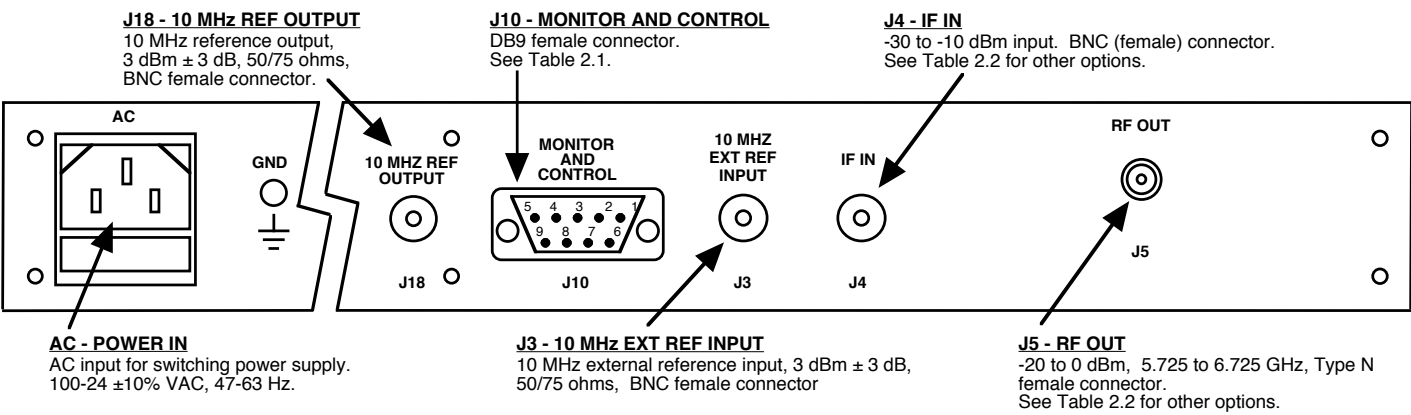

FIGURE 2.2 2015-5767 Rear Panel Inputs and Outputs
2.2 Rear Panel Input / Output Signals - Figure 2.2 shows the input and output connectors on the rear panel.
1. Connect a -30 dBm to -10 dBm, 70 MHz signal to IF IN, J4 (Figure 2.2)
Alarm indications appear on the LEDs (see figure 2.2).